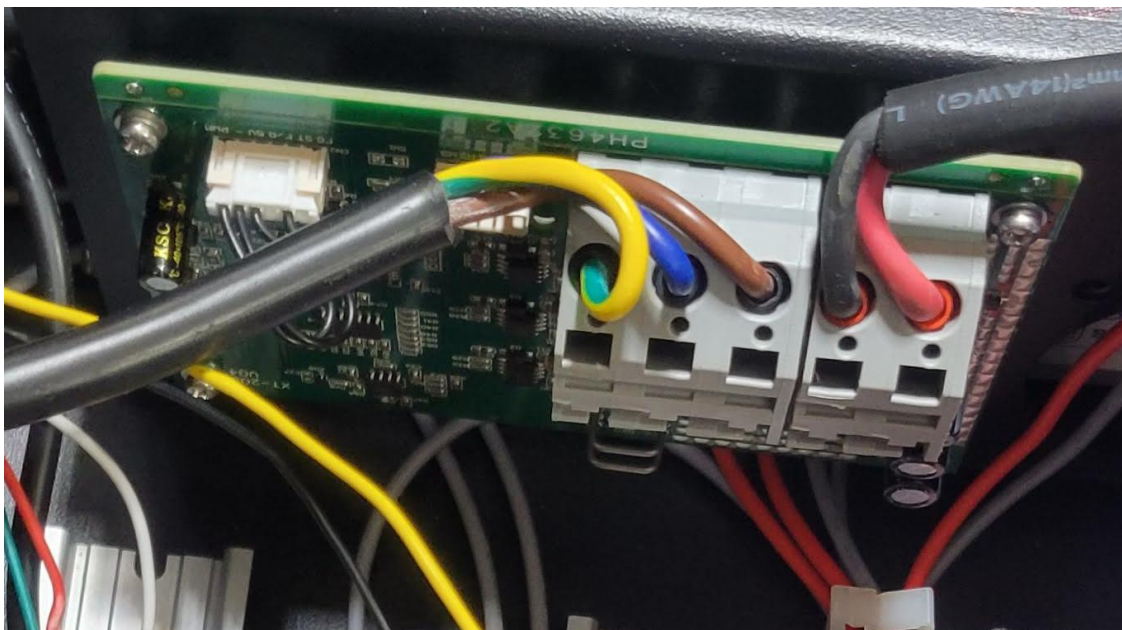

Figure 3
- Next, you must identify the wires for the atomizer driver board, Green, Blue, Brown, Black, and Red. See Figure 3.